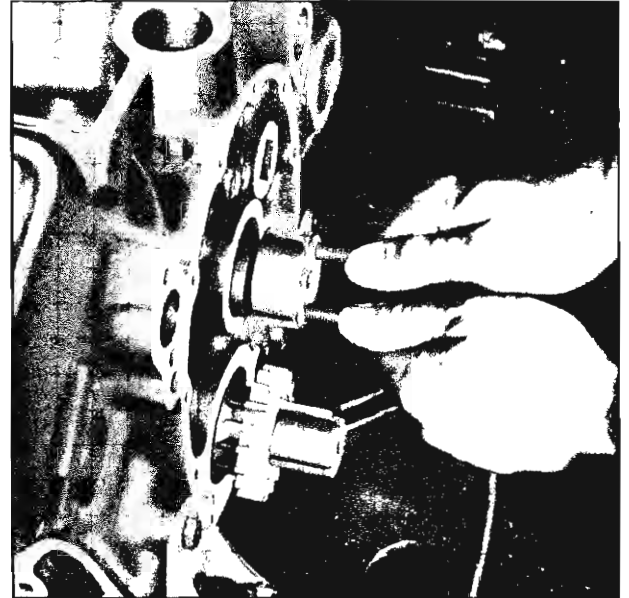

Fig. 80—Removing Camshaft
5. Install two bolts, $\frac{5}{16}$ "-18 x 4" in two of camshaft bolt holes. Remove camshaft from engine (fig. 80).